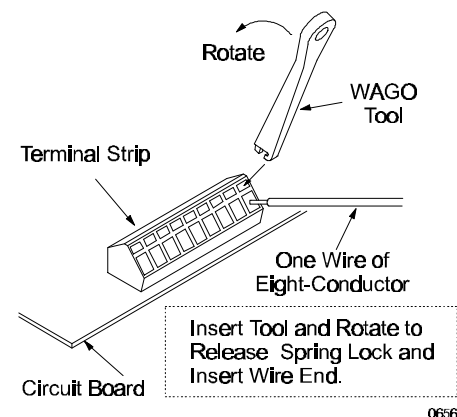

Figure 5 - Terminal Connection
- E) Locate the WAGO Tool that is taped to the relay on the circuit board in each Processor. Use this tool to depress the spring lock for the individual wire connections to the terminal strip. (See Figure 5)